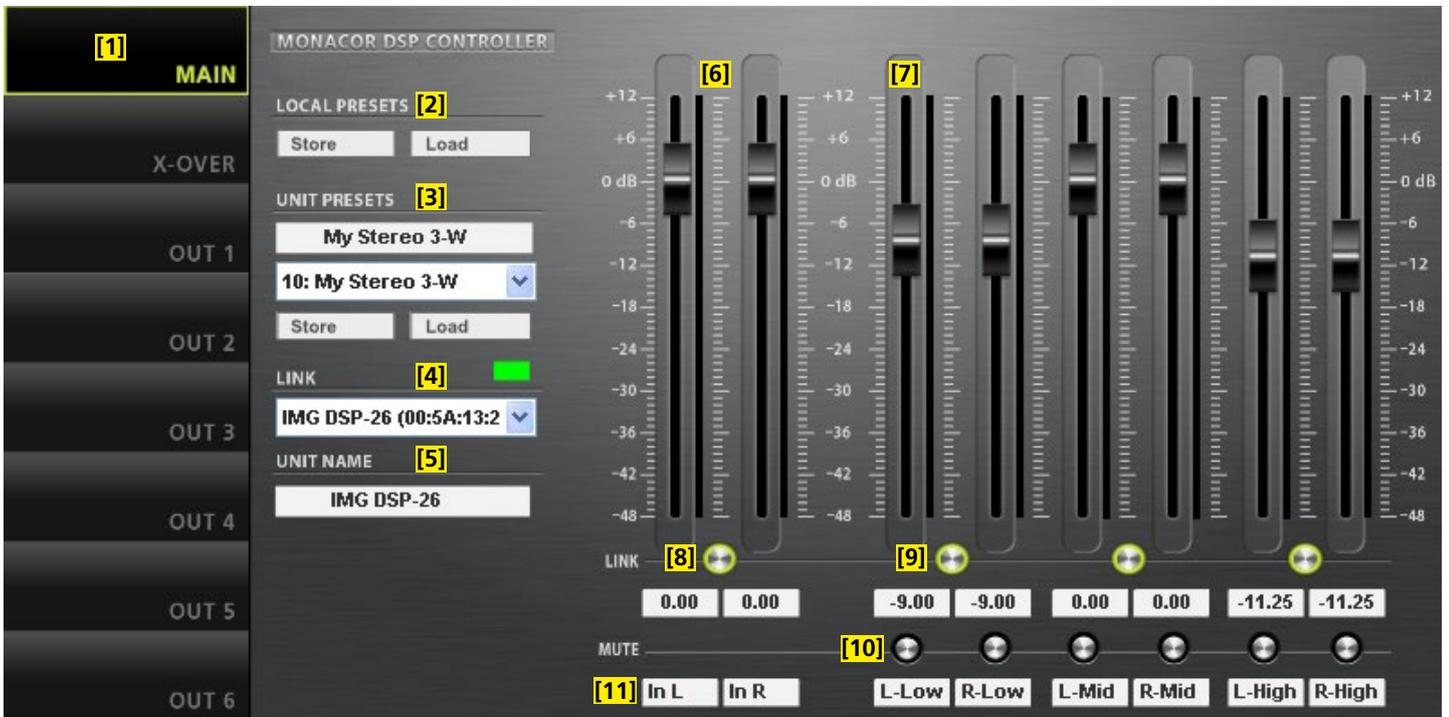

Fig. 10 Configuration window in the view MAIN
8. Button  to call up the configuration window (fig. 10) for a unit that is “online”
Various virtual units with the additional designation "DEMO ..." will be added to the list. As for real units, the button  can be used to call up the configuration window ( fig. 10).
The configuration window (fig. 10) with the view MAIN for the unit selected will appear. The colour field on the left-hand side, next to LINK [4], will indicate the connection status of the unit. When the
### 6.3.2 View MAIN (fig. 10)